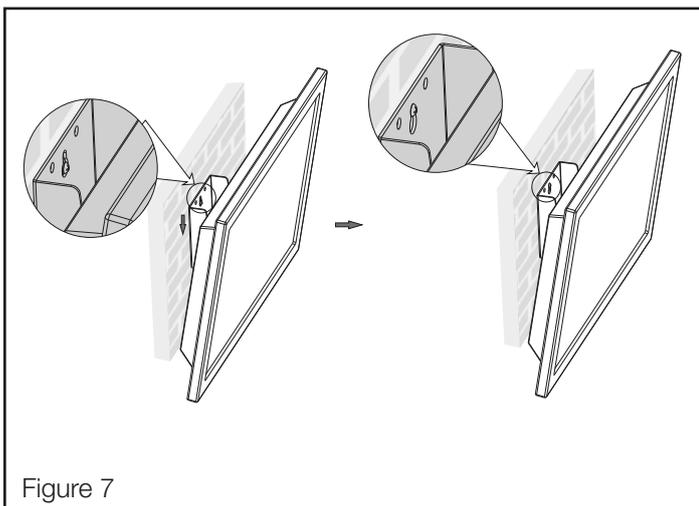

Figure 7
1. Using a second person for assistance, carefully lift TV and hook the TV Wall Mount over the lag bolts and slide down slowly (see Figure 7).